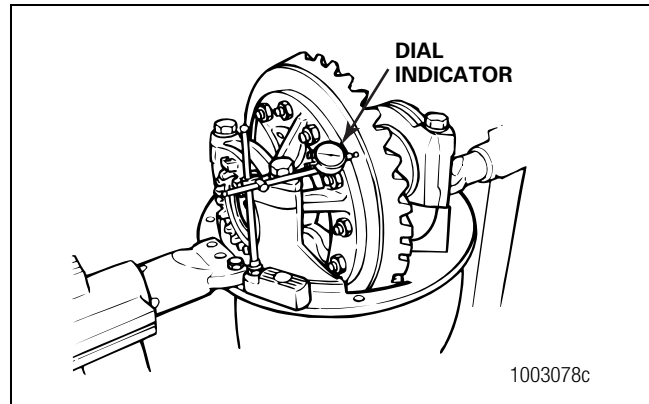

Figure 5.29
1. Attach a dial indicator to the carrier mounting flange so that the pointer is against the ring gear's back surface. Figure 5.29.